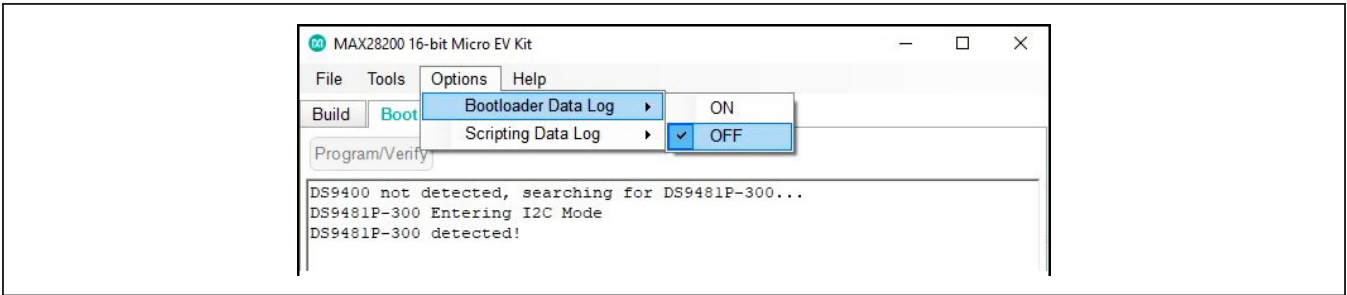

Figure 8. Turning Off the **Bootloader Data Log** for Faster Performance
- 4) For faster performance, make sure that the bootloader data log is off. Do this by clicking the **Options** tab at the top, hovering over **Bootloader Data Log**, and selecting **OFF** (Figure 8).